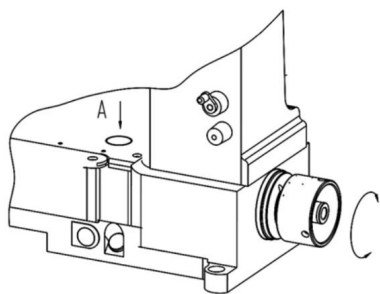

图29 (Fig.29)
- 1.压下针距调整按钮(A),并转动手轮,使按钮卡住针距调整组件,再转动手轮至所需针距后,放松此按钮。(图 29)
- 1.Push stitch length regulator bottom (A) and turn pulley until the bottom lock inthe stitch regulator.Then ,turn pulley again to reach desired stitch length.then,release the bottom (Fig.29)。